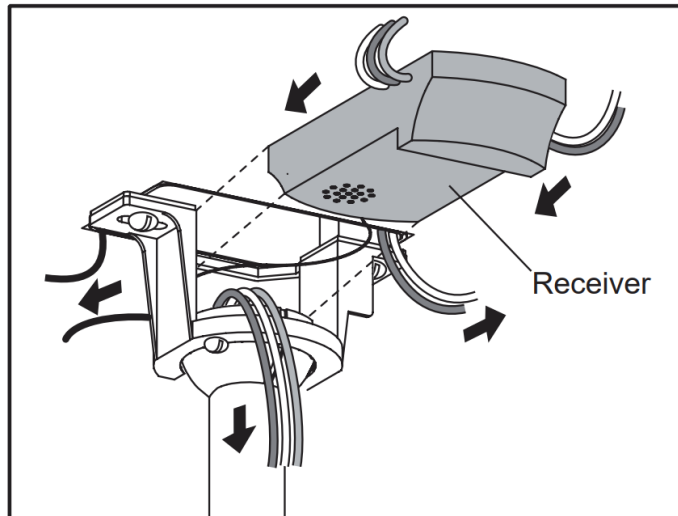

Fig. 13
11. Carefully insert the Remote Receiver above the hanger ball in the remainder spacing in the mounting bracket. Take care not to damage or loosen any of the wiring. (Fig. 13)